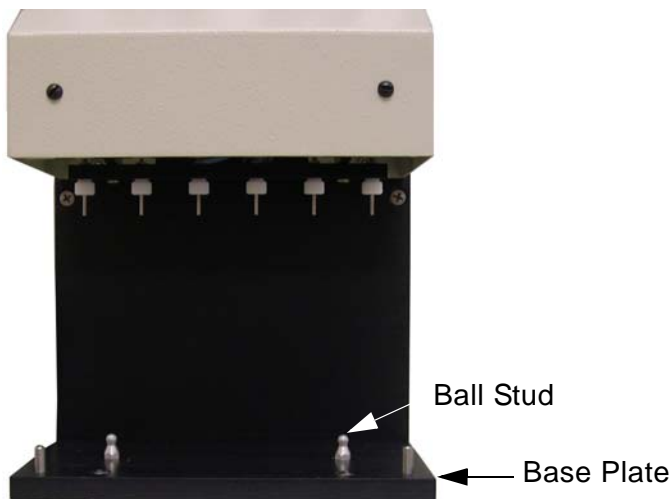

Figure B-6. Ball Stud and Base Plate
3. Install the waste drain onto the elution station's two ball studs, making sure the waste drain snaps into place and sits flush on the base plate (see Figure B-6).